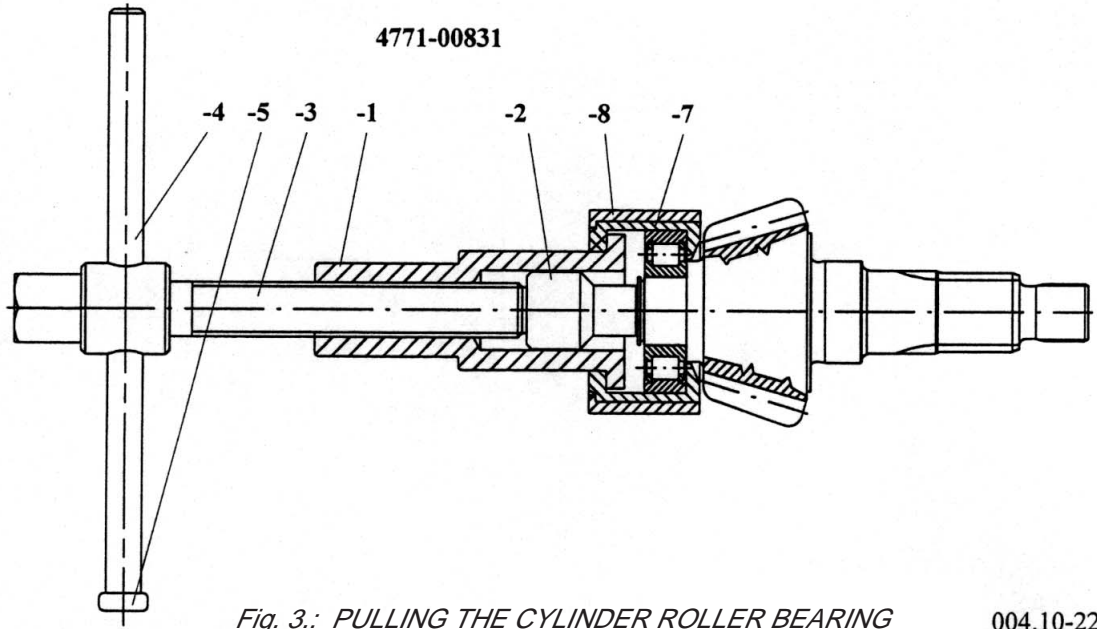

Fig. 3.: PULLING THE CYLINDER ROLLER BEARING
Remove the snap ring (46) from the end of the drive pinion and by means of the device shown and pull the cylindrical roller bearing (45) (Fig. 3).